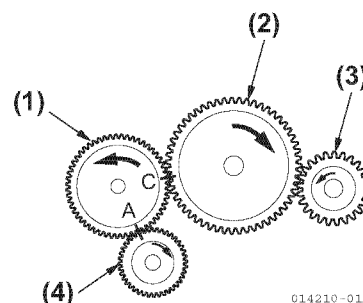

Figure 5-144
20. Measure the idle gear, camshaft gear and crankshaft gear backlash (Figure 5-144).